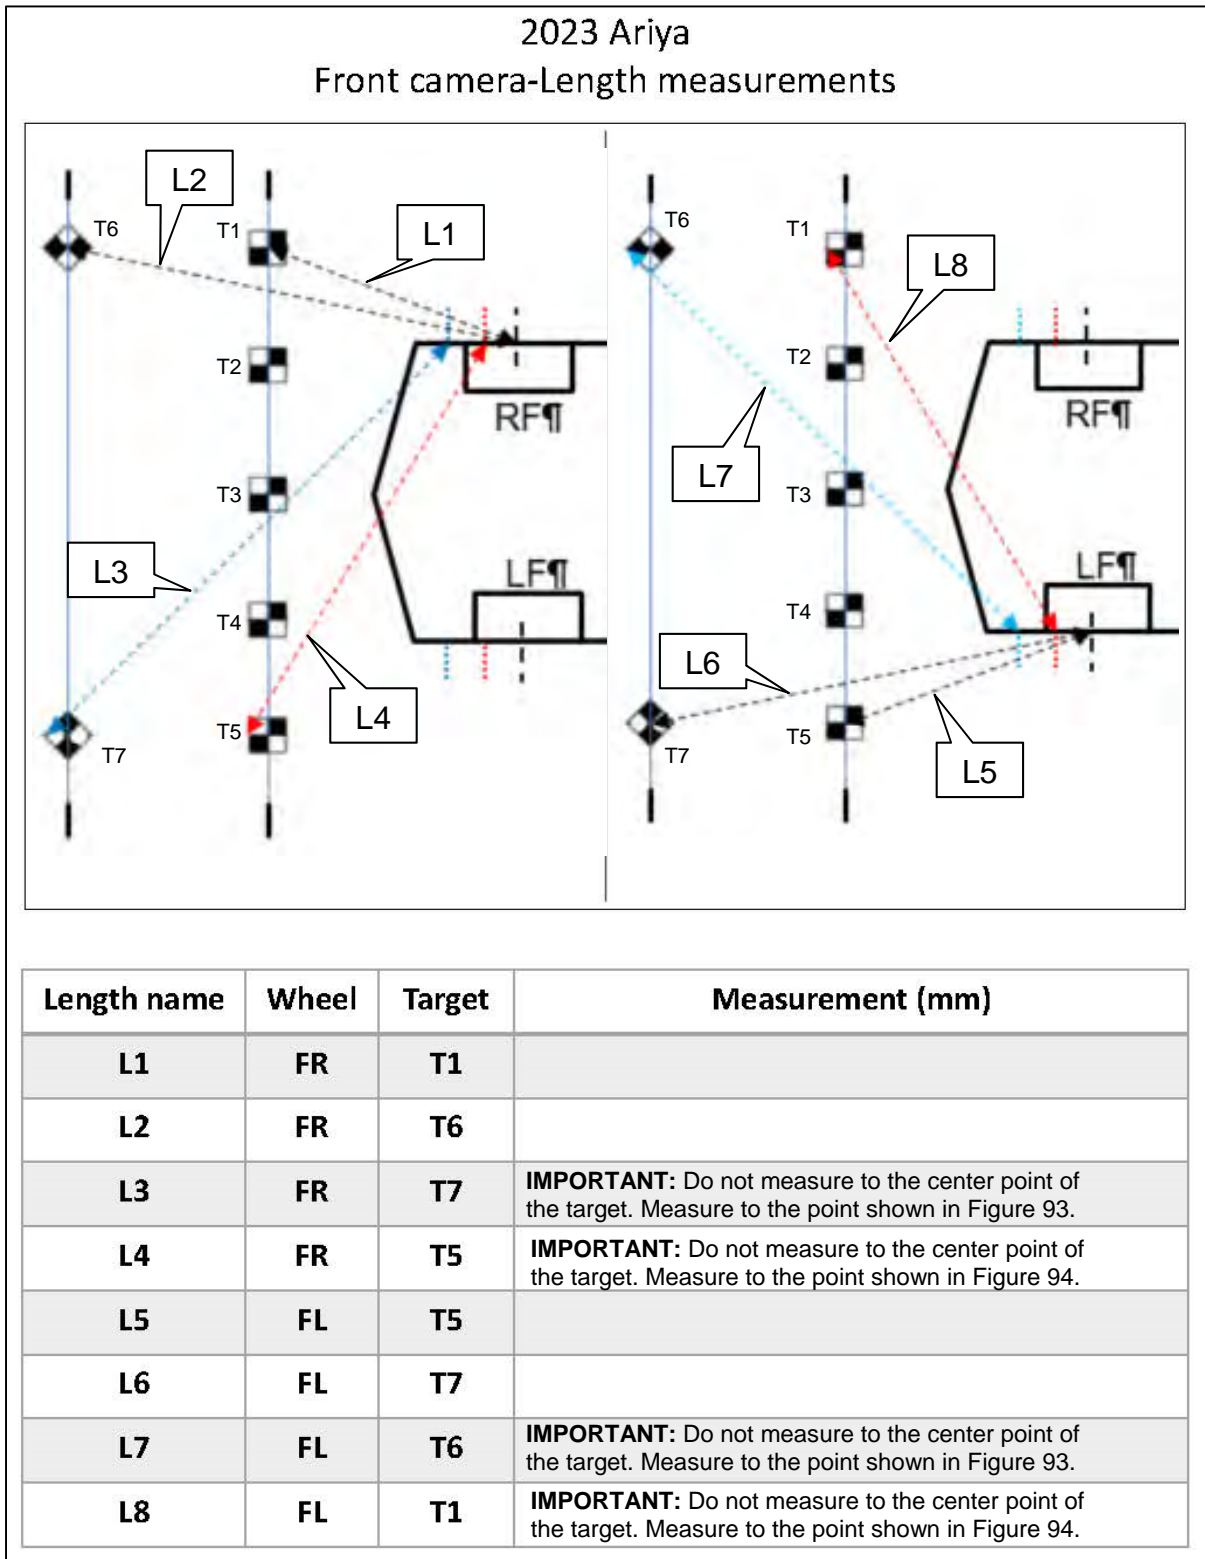
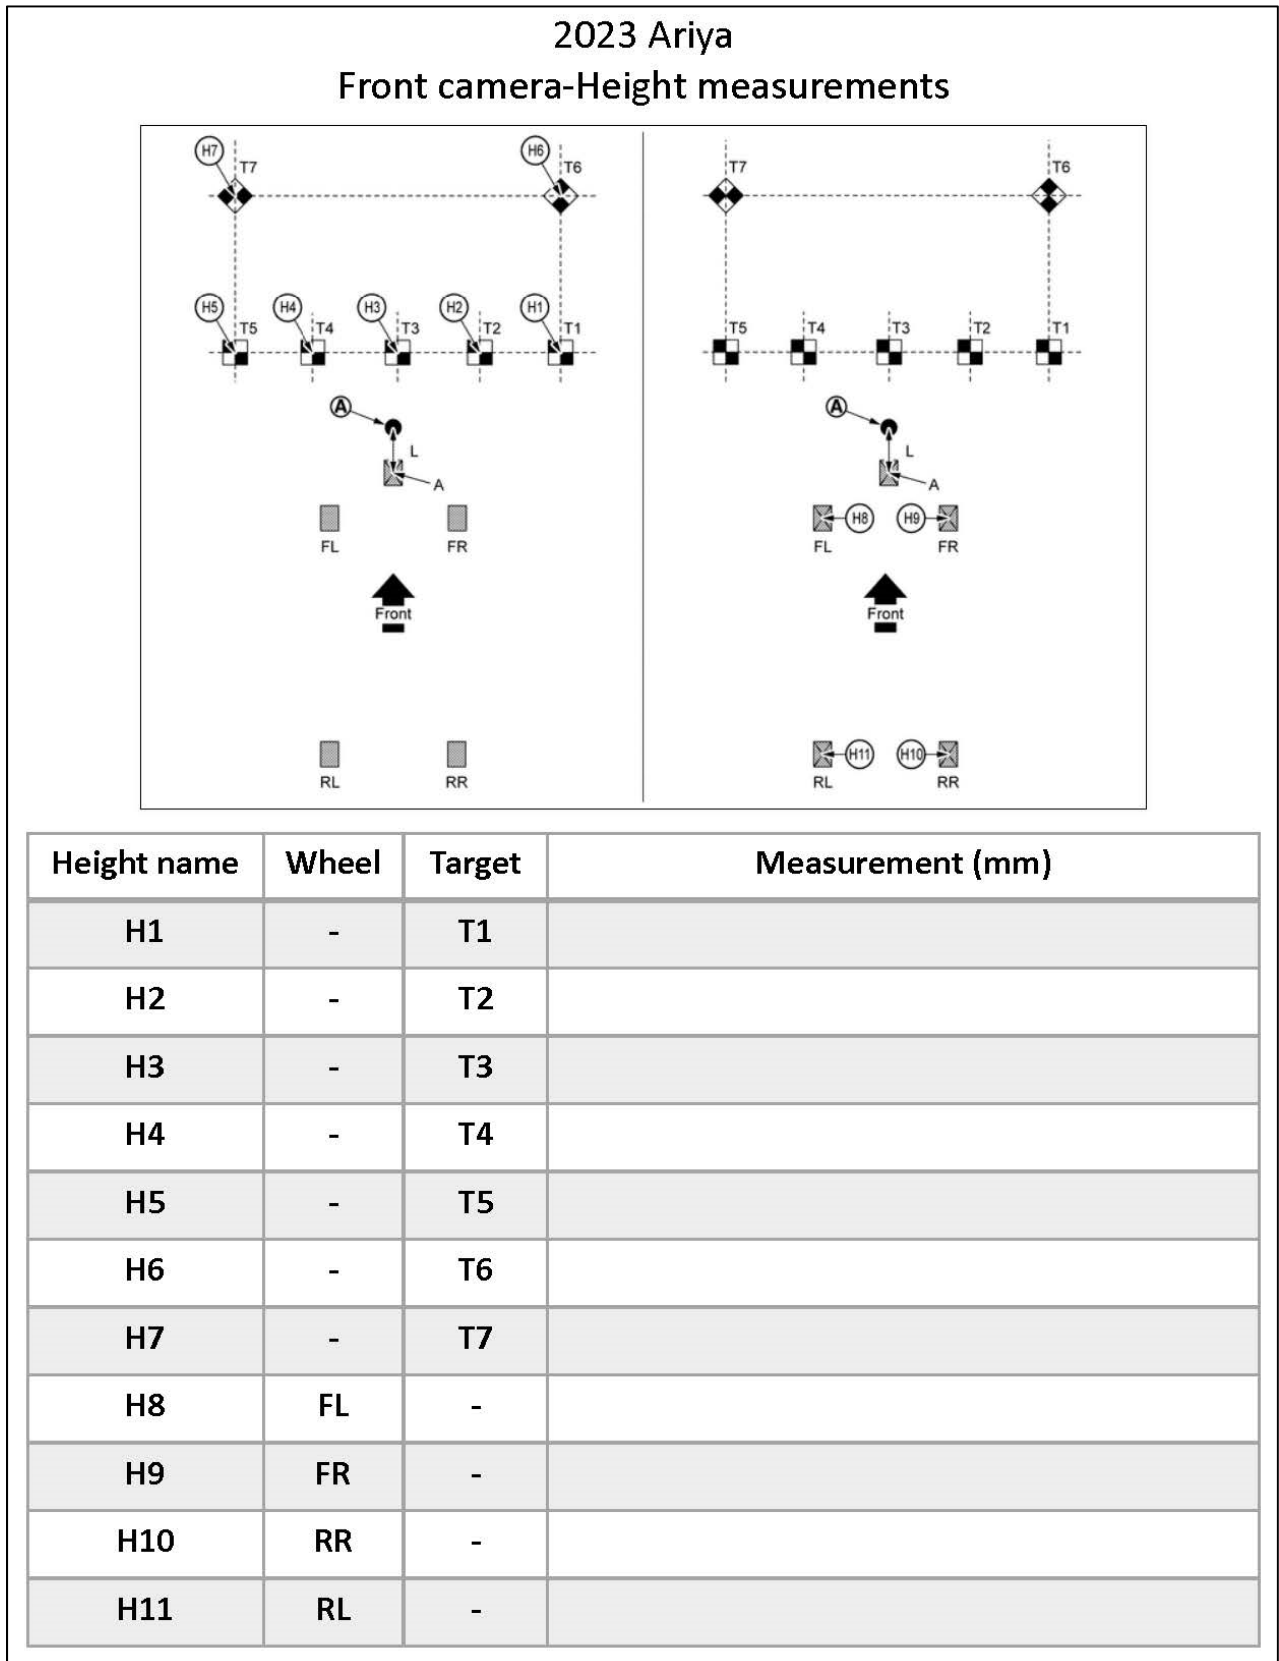

Figure 106
Figure 107
IMPORTANT: All measurements must be in millimeters (mm). Refer to the illustrations in Figure 106 and Figure 107 to ensure the correct measurement is documented in the correct order and for each calibration target.
75. Refer to steps 71 - 73 on page 53 to set up the laser level to measure the height of the front camera, and then document the measurements in Figure 107.